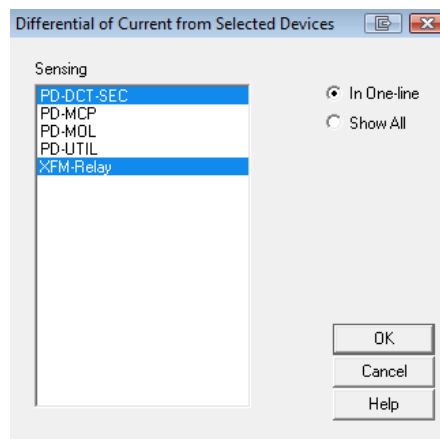

Figure 6
- The window for “Differential of Current from Selected Devices” will prompt for the selection of the protective devices as the reference CTs. An additional option is provided to select these devices from the TCC associated one-line drawing or from all of the devices in the project (Figure 6).
- Select the XFM-Relay and PD-DCT-Sec devices by using the Ctrl Key+Left-click. Click OK to have the referenced device currents subtracted and displayed under Summation/Direction column (Figure 6 and 7).